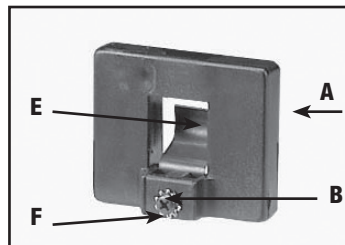
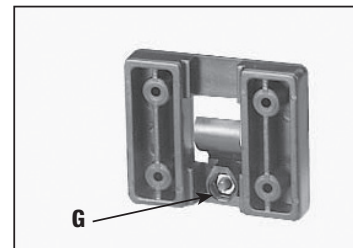

Fig. 19
Fig. 20
1. Attach the spring clip (E) Fig. 19 to the miter gauge holder (A) using an M4x.7x10mm pan head screw (F), 3/16" external tooth lockwasher (B) and M4x.7 hex nut.
NOTE: The hex nut (G) Fig. 20 will fit into the recess at the back of the miter gauge holder (A) Fig. 19 to keep the spring clip (E) secured to the miter gauge holder.